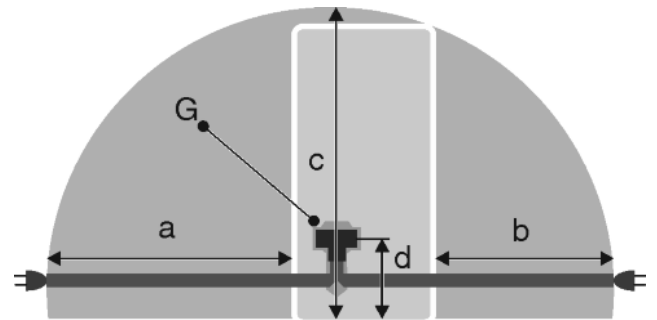

Fig. 22
- The socket is outside the back of the appliance area in the specified area Fig. 22 (a, b, c).
- ▶ Insert the appliance plug *Fig. 22 (G)* into the back of the appliance. Ensure that it clicks into place.